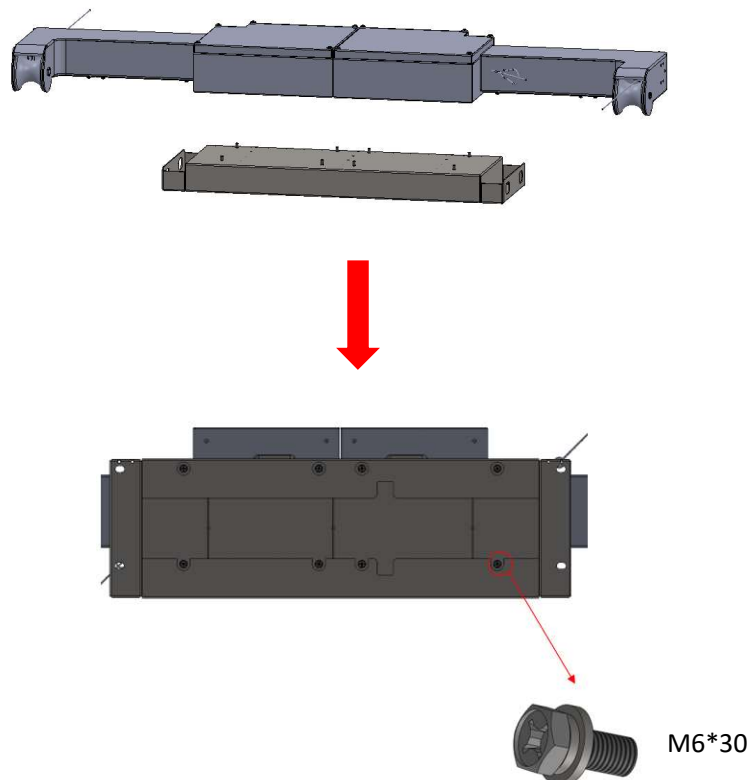

Figure 19 Install the CMS on the adapter plate
(13) Install the CMS on the adapter plate, and fasten the CMS with the screws on the back of the adapter plate as shown in Figure 19.